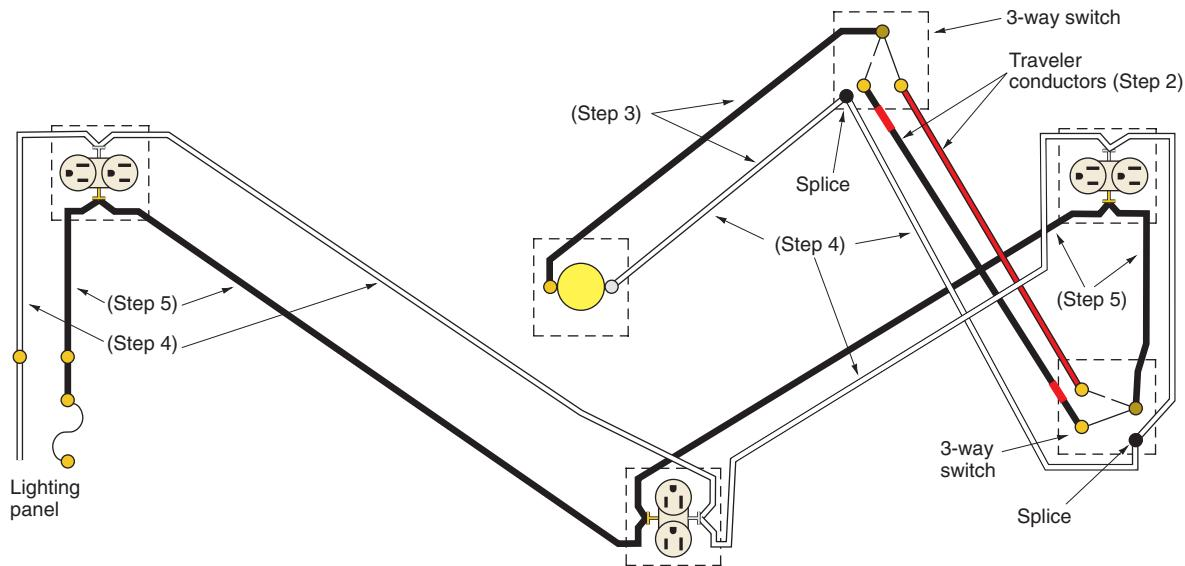

FIGURE 8-6 Wiring diagram of the circuit shown in Figure 8-5. (*Delmar/Cengage Learning*)
2. Draw a wiring diagram showing the traveler conductors for all 3-way switches, if any, as in Figure 8-6.
- The final step in preparing the wiring diagram is to mark the color of the conductors, as in Figure 8-6. Note that the colors selected—black (B), white (W), and red (R)—are the colors of 2- and 3-conductor cables (refer to Chapter 5). It is suggested that the reader use colored pencils or markers for different conductors when drawing the wiring diagram.